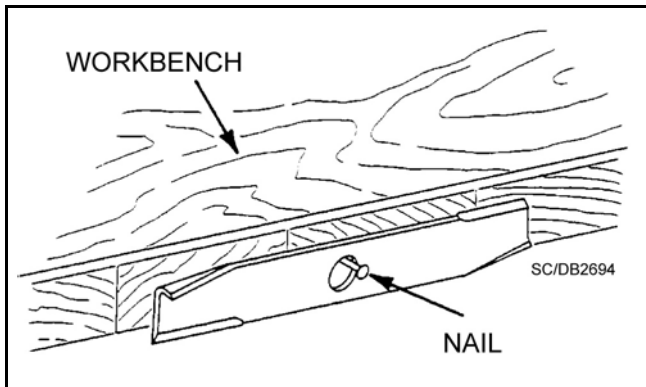

Figure 5. Blade Balancing
4. Sharpen both cutting edges equally to keep blade balanced. Balance blade using the method shown in Figure 5.